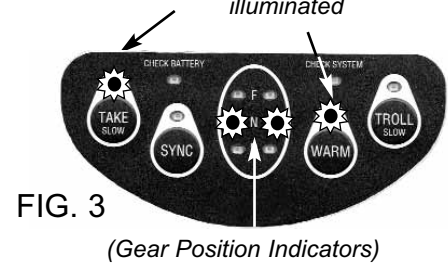

FIG. 3
3. The EEC3 system is operational when the TAKE light and WARM lights are fully illuminated (not blinking - see FIG. 3). The system is automatically placed in WARM Mode at startup (This feature can be changed if desired, see Section 5.8).